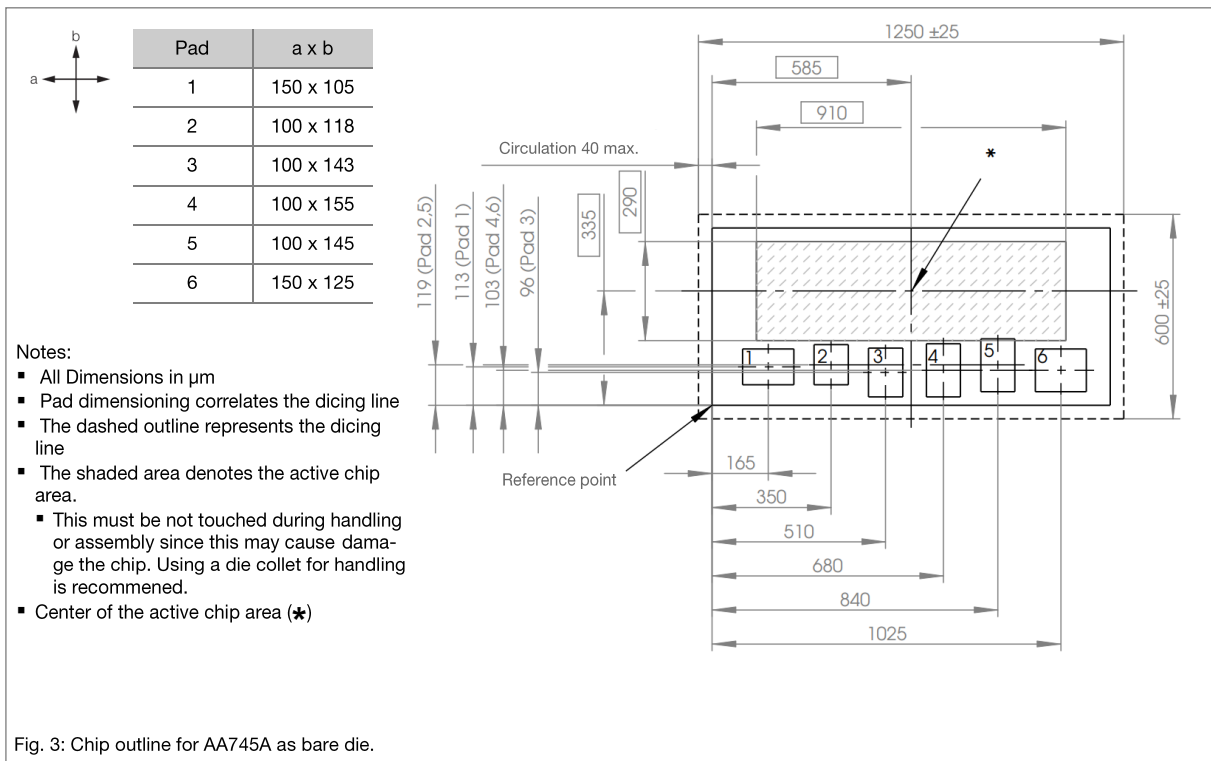

Fig. 3: Chip outline for AA745A as bare die.
1) Tolerances of chip see Fig. 3.